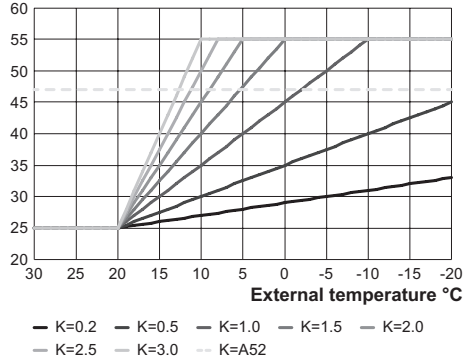
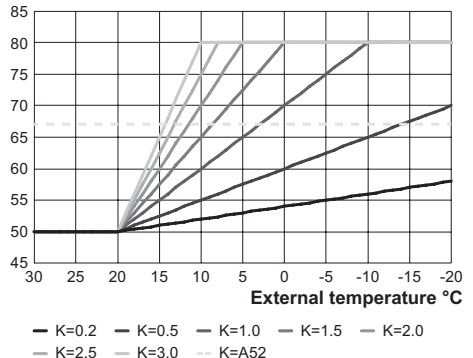

Figure 5.28
Figure 5.29
With heating temperature setting 28-55°C (Figure 5.28) or temperature setting 50-80°C (factory set) (Figure 5.29) (see "Selecting the heating temperature set" on page 43).
- Using buttons 16 or 17 it is possible to change the value of parameter P08 from a minimum of **1.0** to a maximum of **3.0** based on the selected curve of the K coefficient in Figure 5.28 (the value read on the display corresponds to the decimal values of the K coefficients).